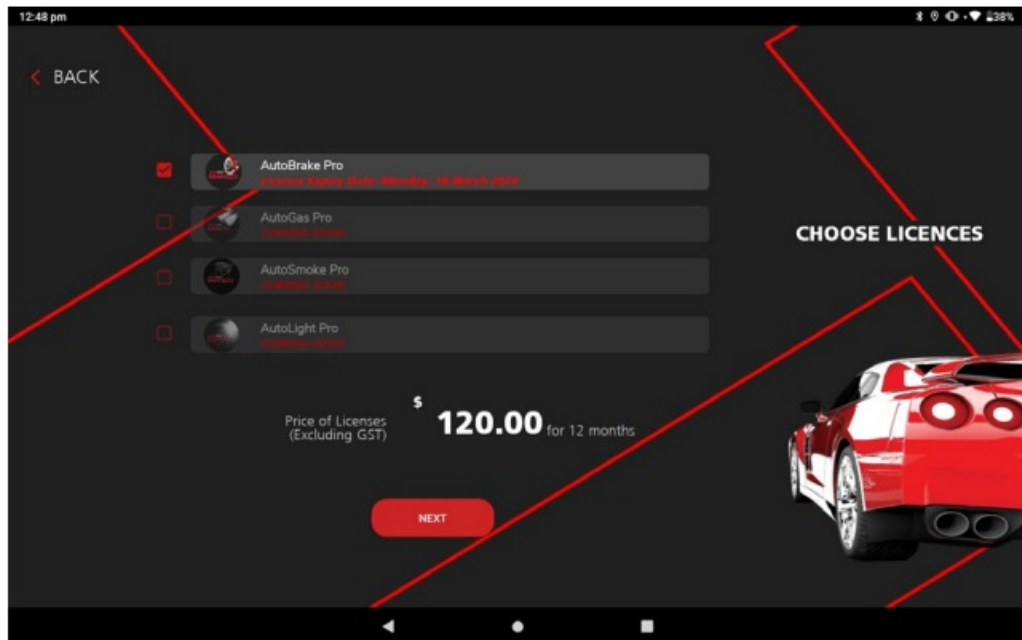

Figure 17
- **Step 3:** Choose the License (AutoBrake Pro). It will display the price of the License = \$120 for 12 Months. (Figure 17)